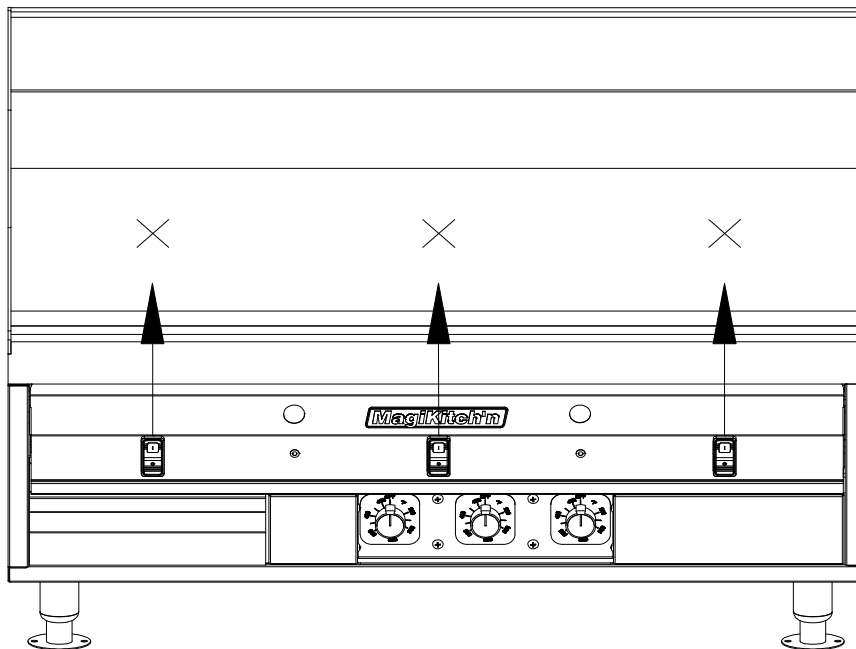

Figure 8
1. If available, place grill surface thermometer over each thermostat sensing probe 12" from the front edge of the griddle surface, See Figure 8 below. The sensing probes are located in line with each ON/OFF switch, align your measuring device with the switch and monitor the temperature at all the controls that are to be adjusted.